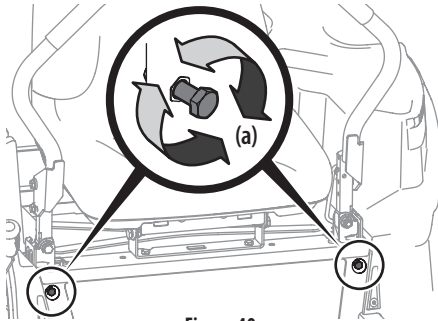

Figure 40
2. Locate the lapbar drive control lever stop adjustment bolts (a) on the front of the seat frame. See Figure 40.
3. To decrease the forward speed, turn the lapbar drive control lever stop adjustment bolts (a) clockwise. To increase the forward speed, turn the lapbar drive control lever stop adjustment bolts (a) counter-clockwise. Turn the lapbar drive control lever stop adjustment bolts (a) in the necessary direction 1/4-turn at a time. After turning the lapbar drive control lever stop adjustment bolts (a), check the adjustment by driving the tractor. See Figure 40.